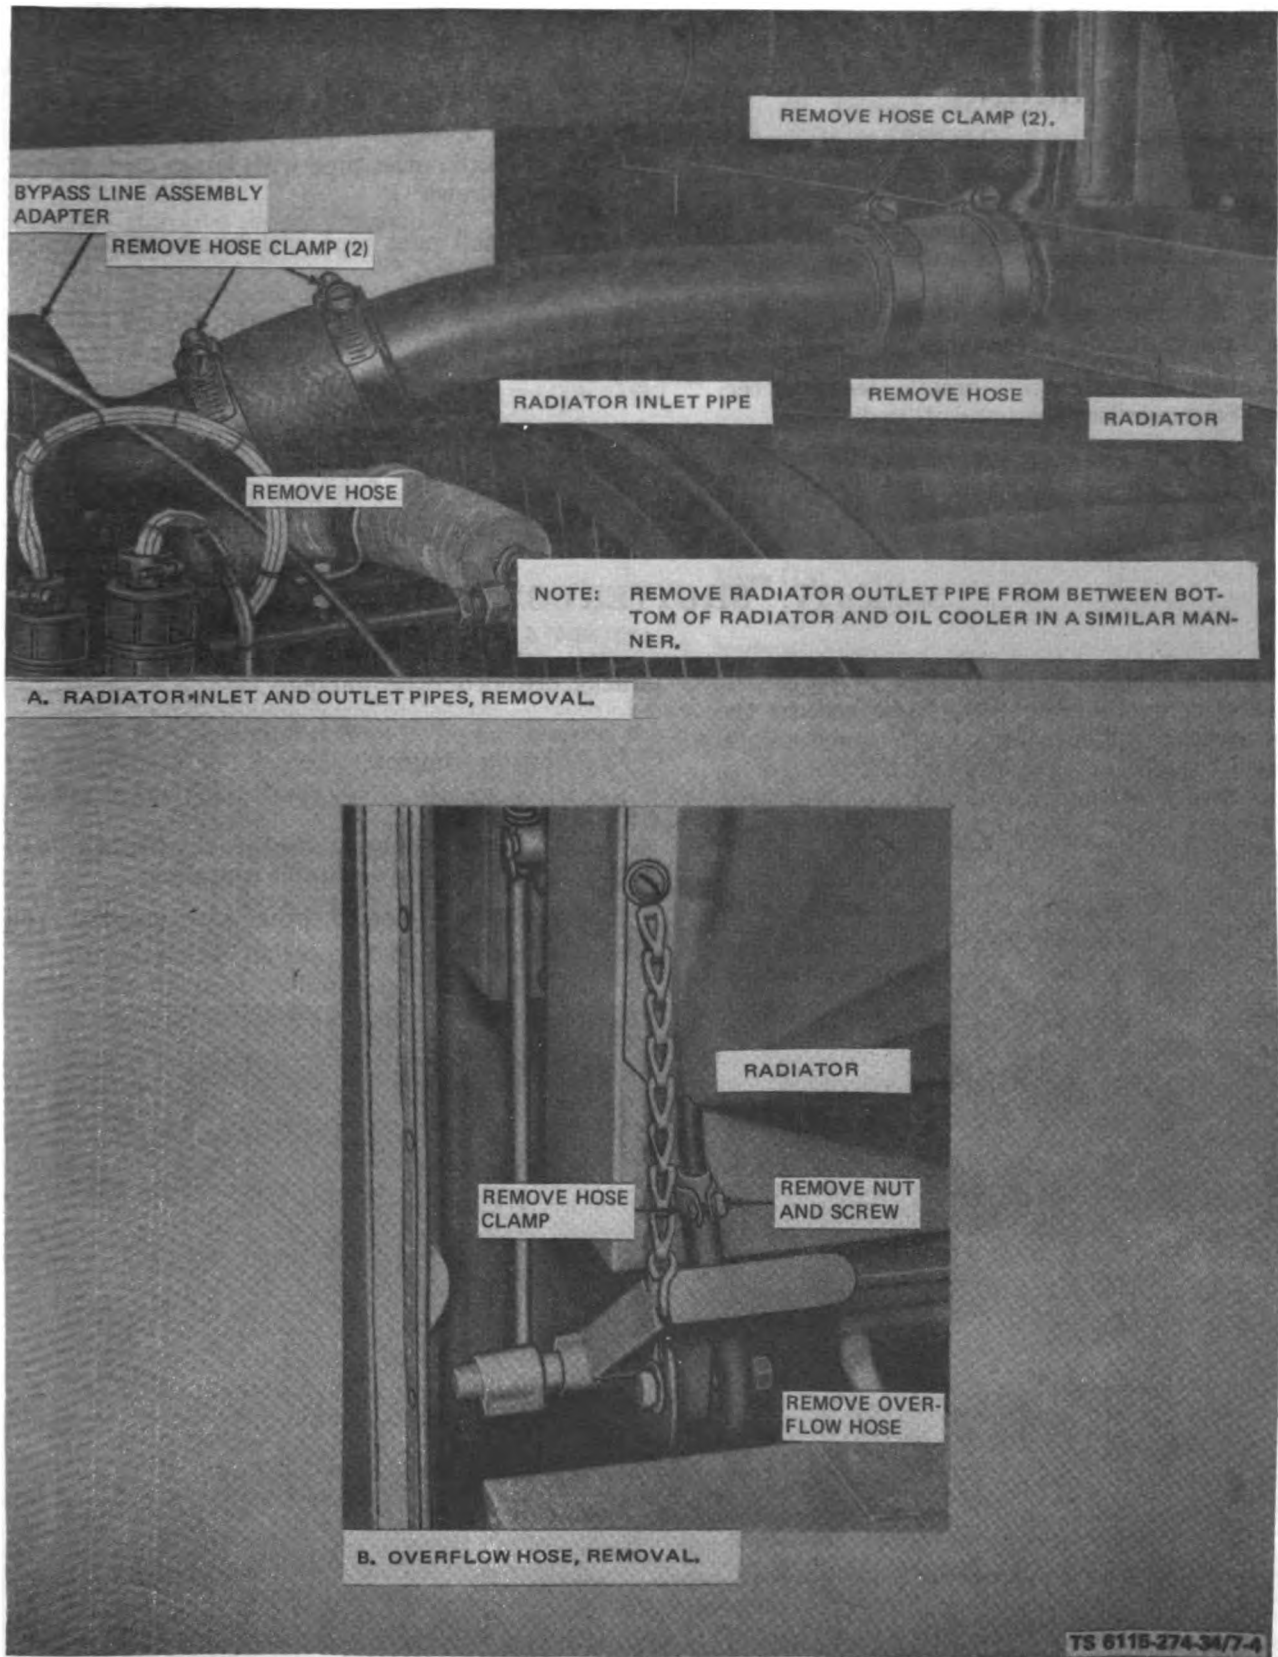

Figure 7-4. Radiator Inlet and Outlet Pipes and Overflow Hose, Removal and Installation
(1) Remove the radiator drainplug and drain the coolant into a suitable container.
(2) Remove hose clamps, hose and inlet pipe (fig. 7-4).
(3) Remove outlet pipe from between bottom of radiator and oil cooler in a similar manner.
(4) Remove hose clamp and remove overflow hose.